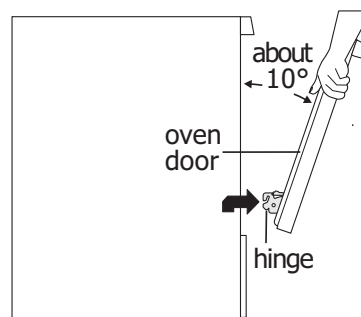

Figure 9: Remove door position
3. Grasp the door by the sides, and close the door until the door frame makes contact with the unlocked hinges. (Figure 9)